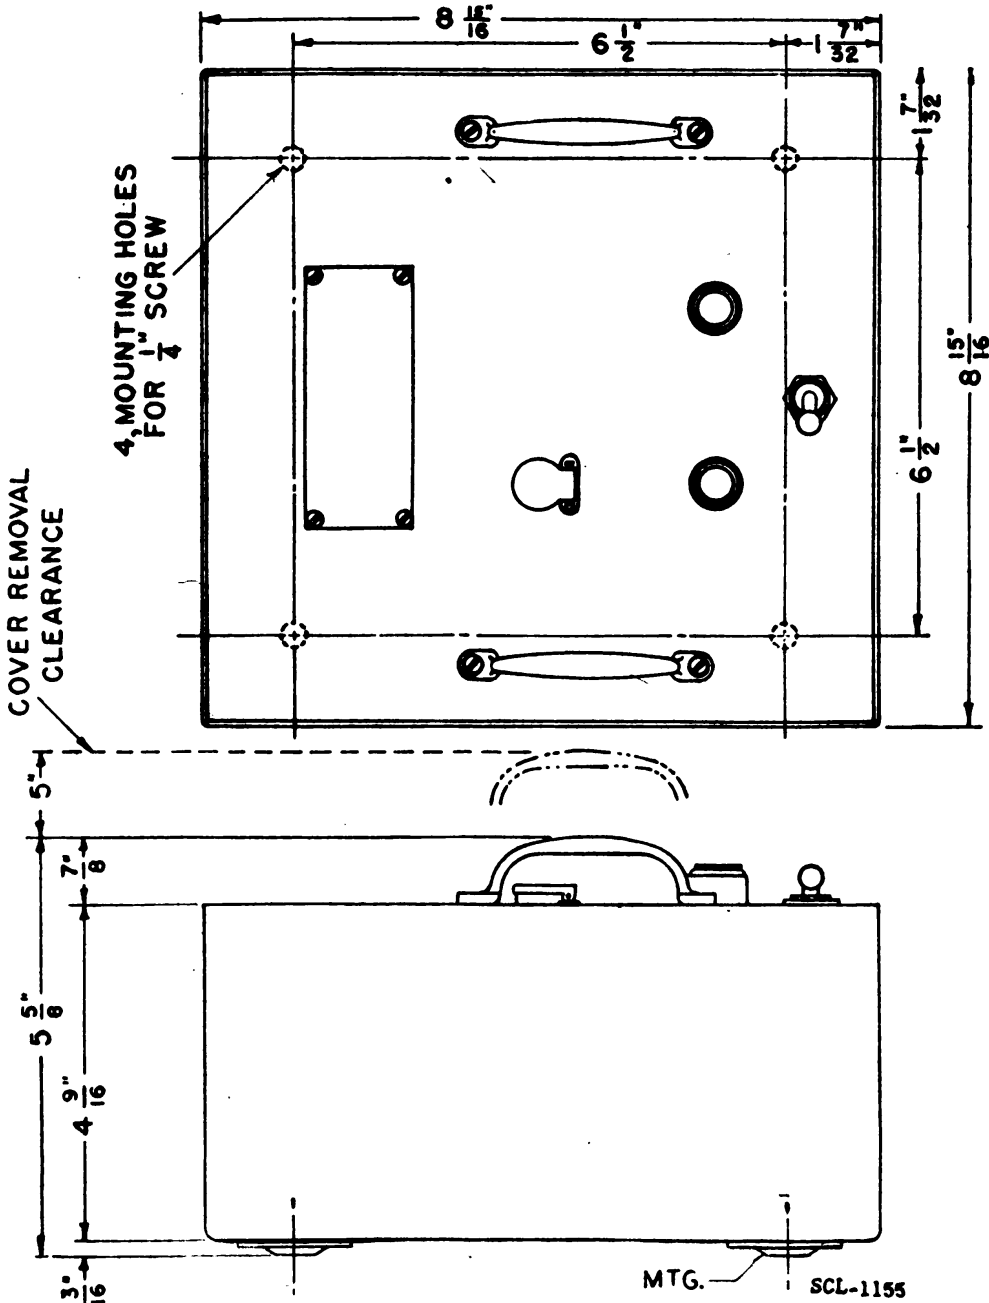

FIGURE 1.—Interphone amplifier BC-367 or BC-667.
a. Interphone amplifier BC-367 (fig. 1).—This unit consists of a panel and tube chassis assembly fitting into a sheet steel box. The entire unit can be removed from the box as electrical connections are made by the use of plugs and jacks. Two guide angles on the sides